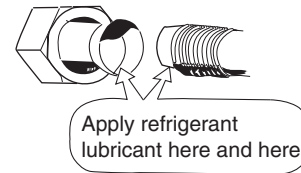

Fig. 12
b) Be sure to apply refrigerant lubricant to the matching surfaces of the flare and union before connecting them together. This is effective for reducing gas leaks. (Fig. 12)